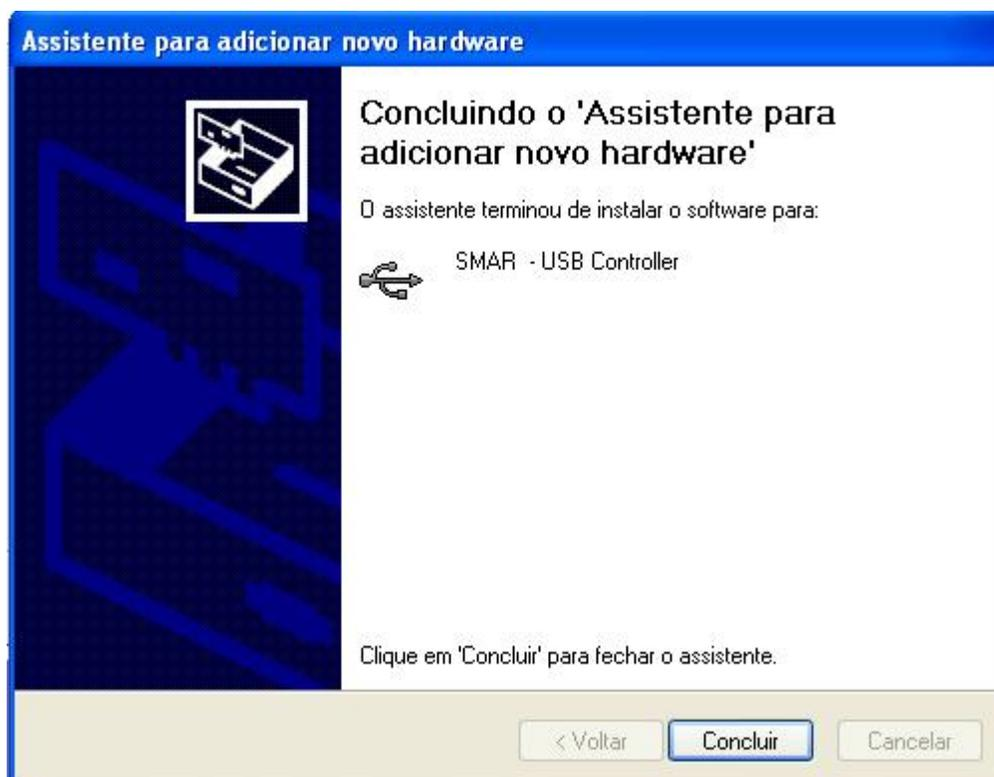

Figure 1.7 – Step-by-step driver installation (Part 3)
- 2ª step: in the next screen the user shall point the driver's folder. After finding it, click in “Next” as in Figure 1.7.